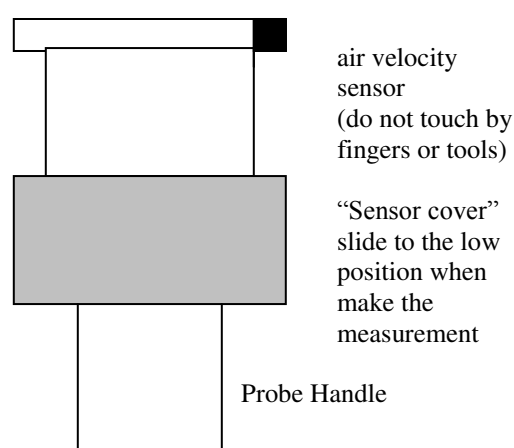

Fig. 3
- a. Slide the sensor cover to the down position, let the air velocity sensor to contact the air, refer Fig. 3.